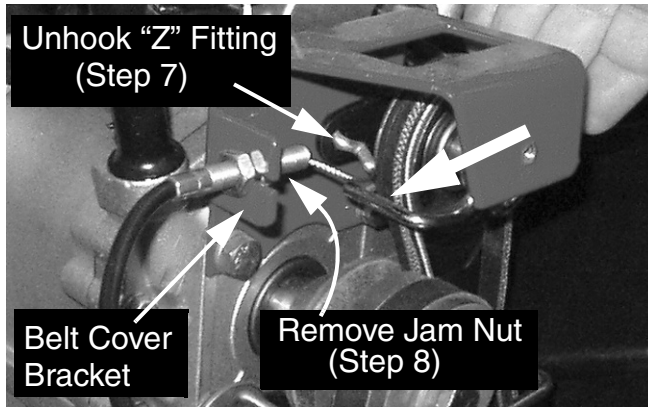

FIGURE 3
7. While manually pushing the reverse drive idler pulley towards the reverse drive clutch cable mounting bracket, unhook the cable's "Z" fitting from the reverse drive idler bracket. See Figure 3.
8. Using a 1/2" open end wrench, remove the reverse drive clutch cable's jamb nut from the idler side of the cable bracket. See Figure 3.